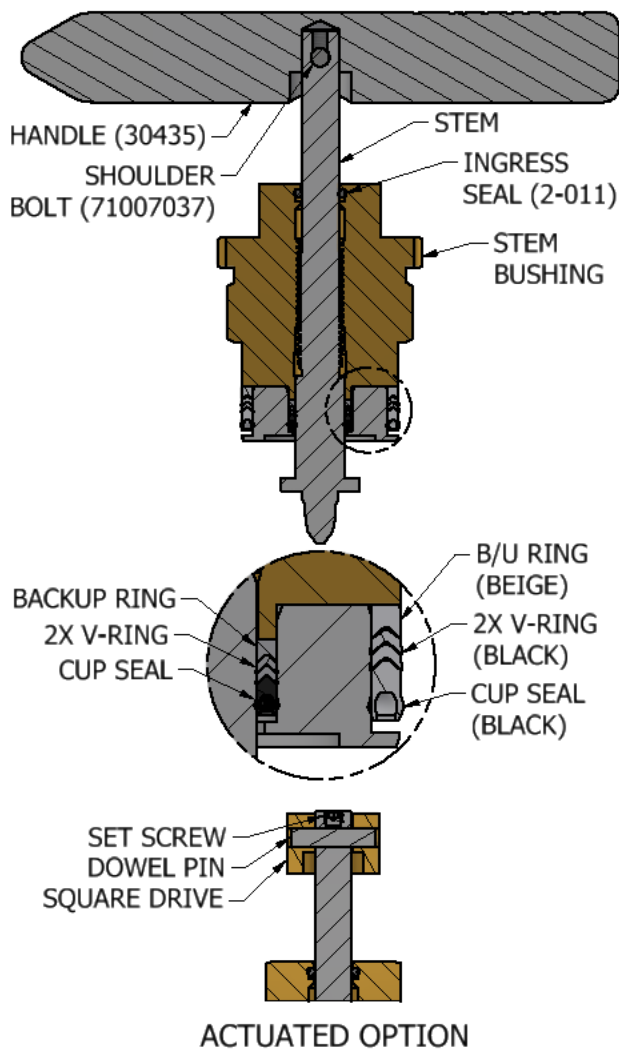

Figure 3 – Stem Assembly
- 6.8 Install each cup seal onto the stem seal retainer spring side down, followed by the two black v-rings and lastly the beige backup ring, with the ridged side facing the v-rings. Orientation per Figure 3.